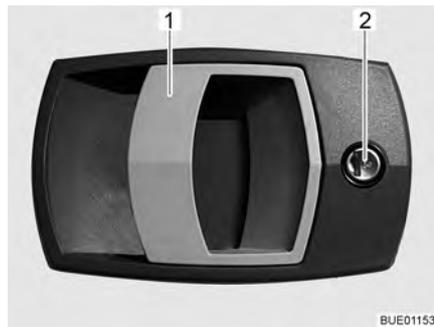

Fig. 29 Door lock of conversion door, outside
Opening: ■ Insert the key into locking cylinder (Fig. 29,2) and turn until the door lock is unlatched.
■ Pull on the handle (Fig. 29,1). The door is open.
Locking: ■ Insert the key into locking cylinder (Fig. 29,2) and turn until the door lock is engaged.